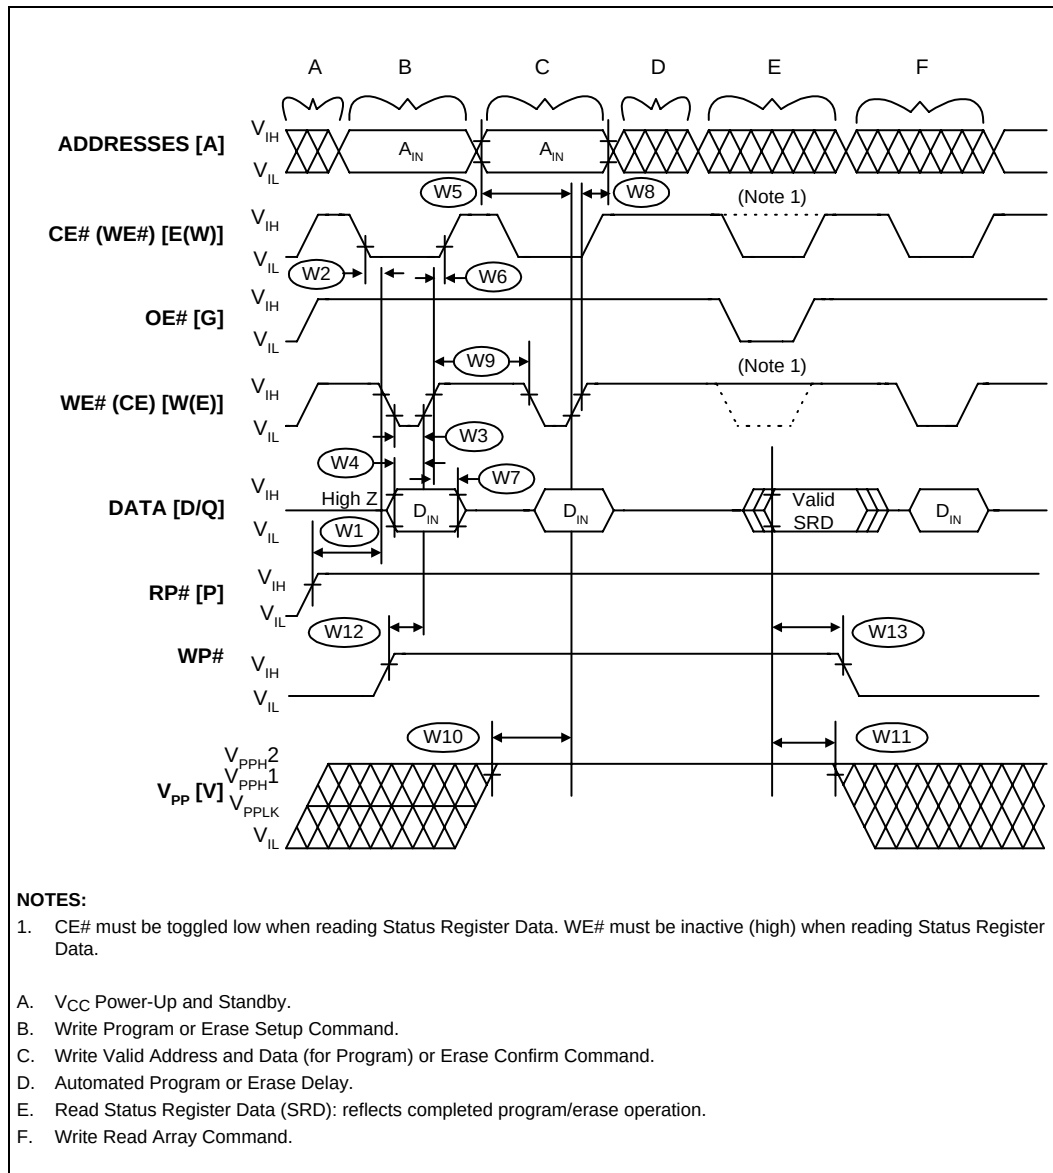

Figure 8. AC Waveform: Program and Erase Operations
- See Figure 8: AC Waveform: Program and Erase Operations